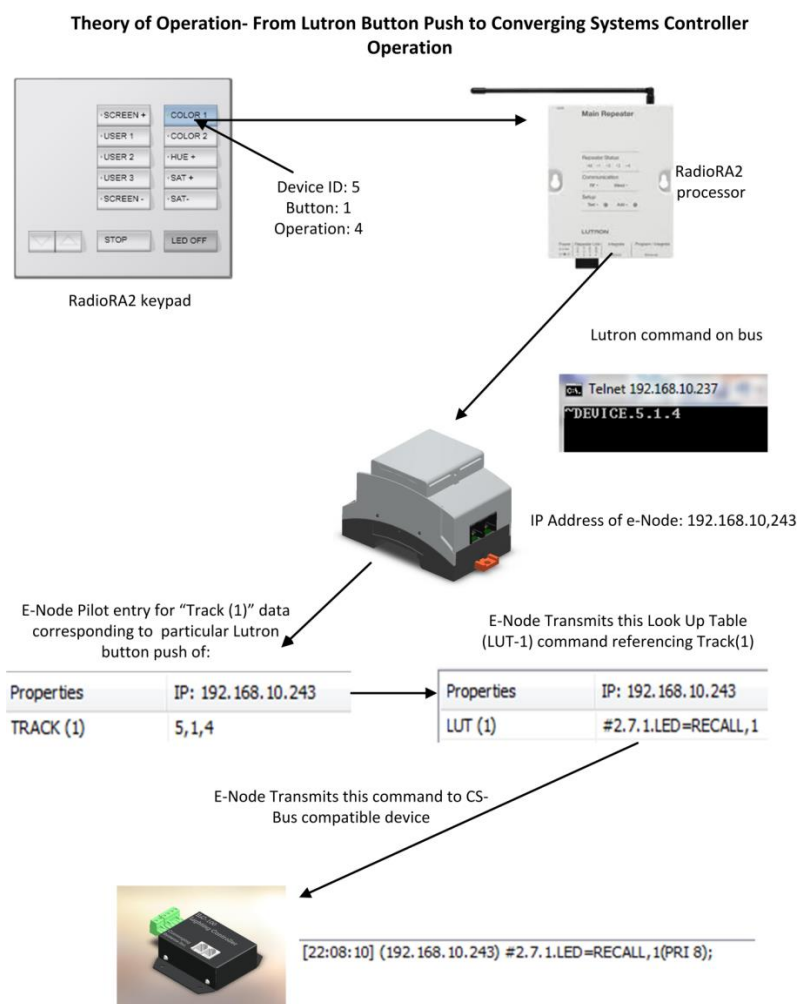

Figure 1
**The Magic.** The Flowchart in Figure 1 shows that if a Lutron identified button (that is to say, a button with a known Device ID, a known Button Number, and a known mode of operation output string, such as a “3”, a “4” or a “5”) is activated, the SLIM software logic within the e-Node is able to translate that button push into a compatible CS-Bus command that can be directed to any CS-Bus compatible controller on that CS-Bus (or a compatible DMX output command with the e-Node/dmx. The steps below will show the programming for the following simple example